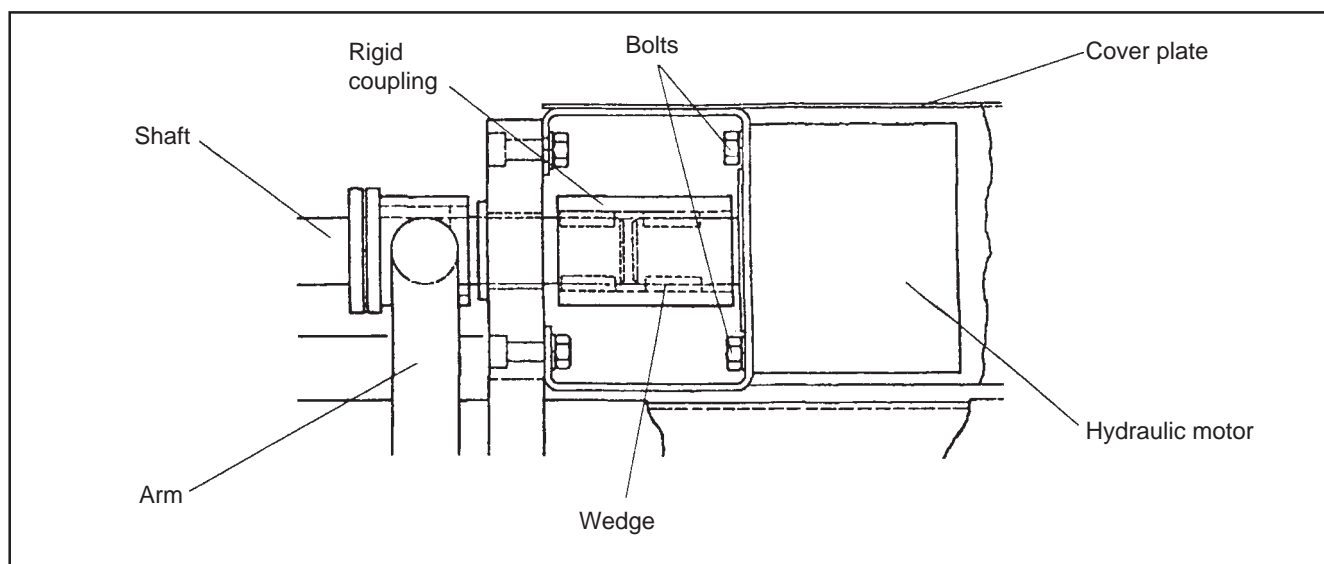

Figure 6.
6. Remove the mounting screws of the motor at the rigid coupling, see figure 6.
5. Loosen the lower stopscrew of the safety clutch, figure 6, using a 6 mm Allen wrench. Pull off the safety clutch from the hinge pin of the door. Save the flat key between the safety clutch and the pin.